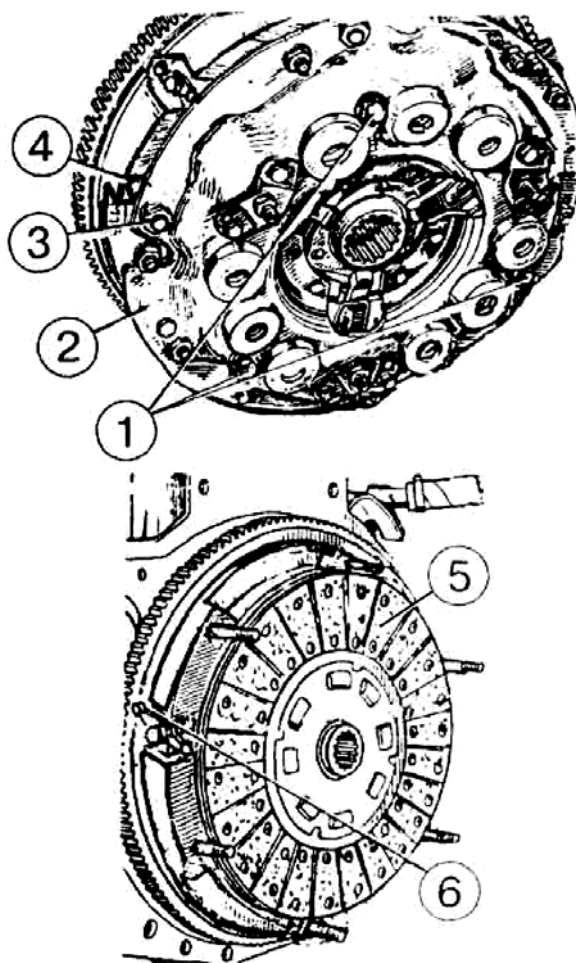

Figure 4.13
- a) via technological openings of supporting disk 2 screw inside squeeze disk (Figure 4.13) three bolts 1 (M12x40) to squeeze springs;